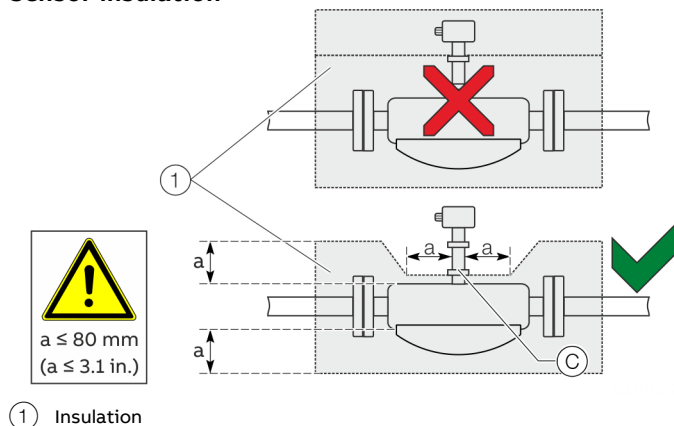

Figure 13: Installation at $T_{\text{medium}} -50^{\circ}\text{C}$ to 205°C (-58 to 400°F)
The sensor may only be insulated in conjunction with the option TE1 'Extended tower length for sensor insulation' or TE2 'Extended tower length – insulation capacity with dual gasket,' as shown in Figure 13.
When operating the sensor in conjunction with heat tracing, the temperature at point (C) (Figure 13) 100°C (212°F) may not be exceeded at any time!